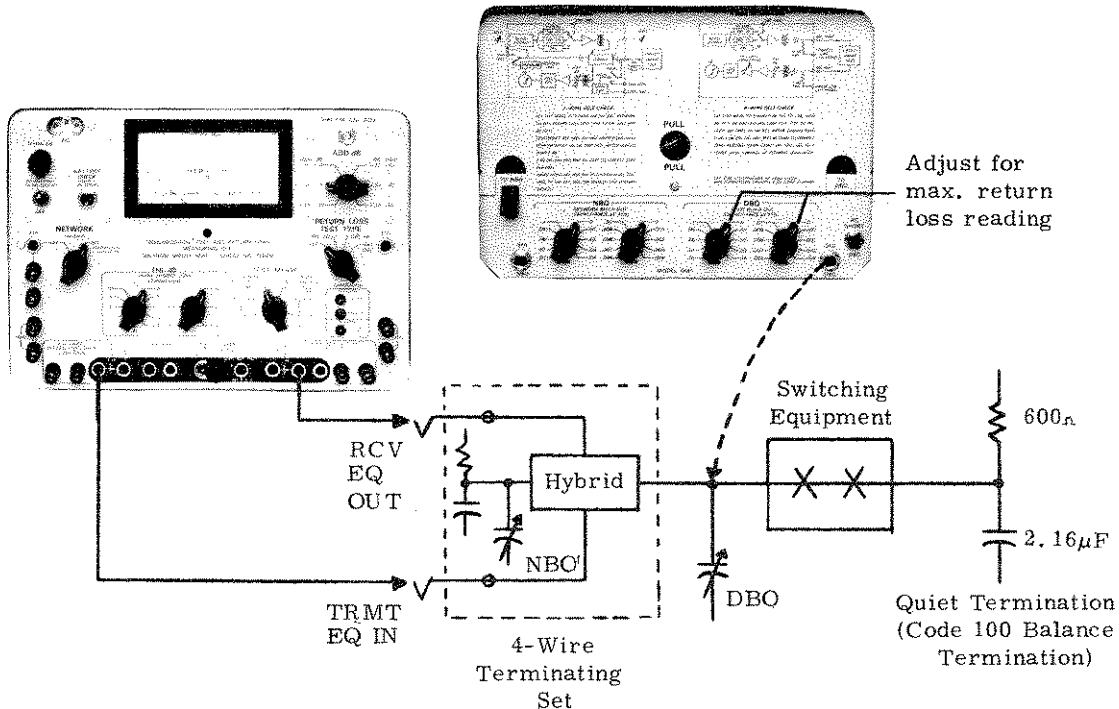

Figure 2-13. Terminal Balance Typical Test Setup, 4-Wire Operation
2.22 For terminal balancing, the NBO capacitors are normally adjusted with the trunk at the end office terminated in a standard impedance such as 900 ohms and 2.16 μ F. When ERL and SRL objectives for terminal balance cannot be met by averaging and reaching a compromise NBO value, it may be necessary to provide some of the shorter trunk paths with DBO capacitors. Figure 2-13 shows a typical test setup for terminal balance measurements.